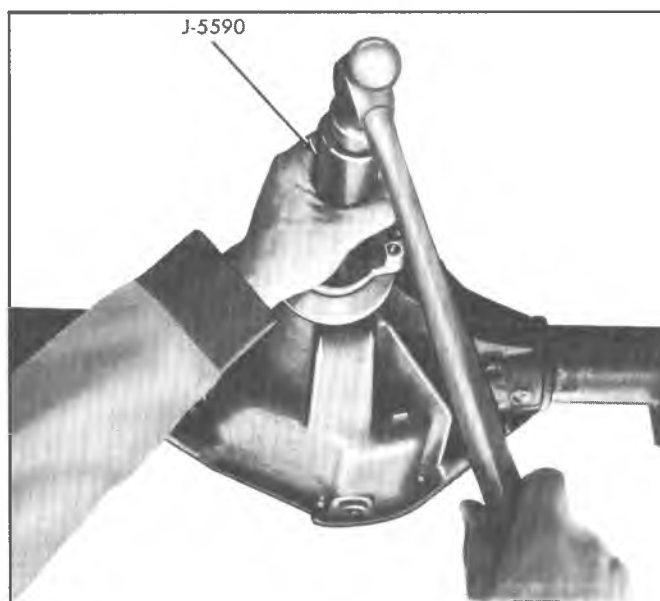

Fig. 10—Installing Pinion Flange
7. Install shims and outer pinion cone and roller on pinion shaft using Tool J-5590 and companion flange to press bearing onto pinion (Fig. 10).